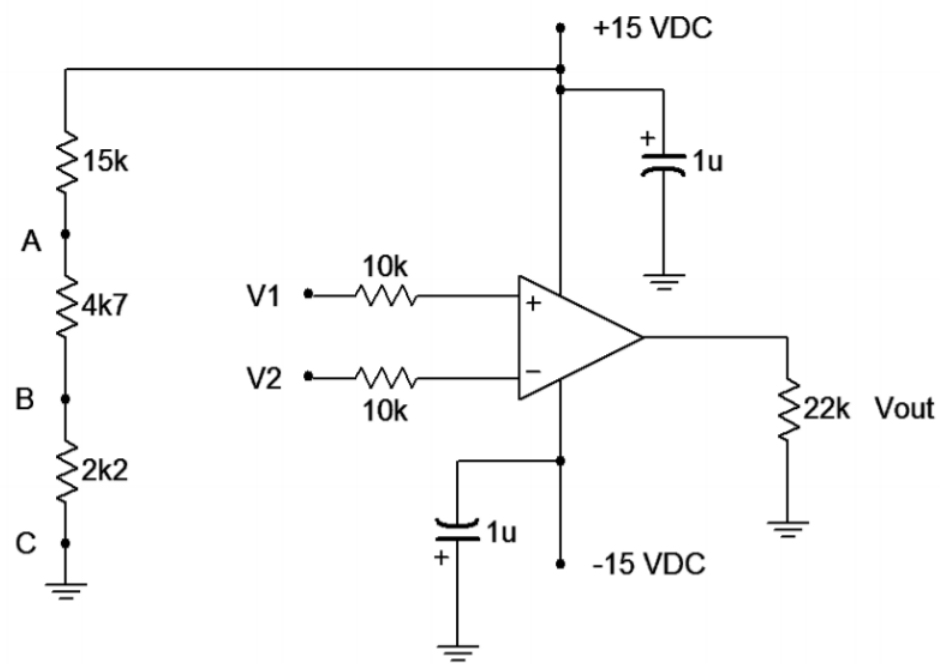

Figure 3.5.1
2. Assemble the circuit of Figure 3.5.1.
8. Build the circuit of Figure 3.5.1 in a simulator and run a Transient Analysis echoing steps 4 through 7. Compare the results to the waveforms generated experimentally.